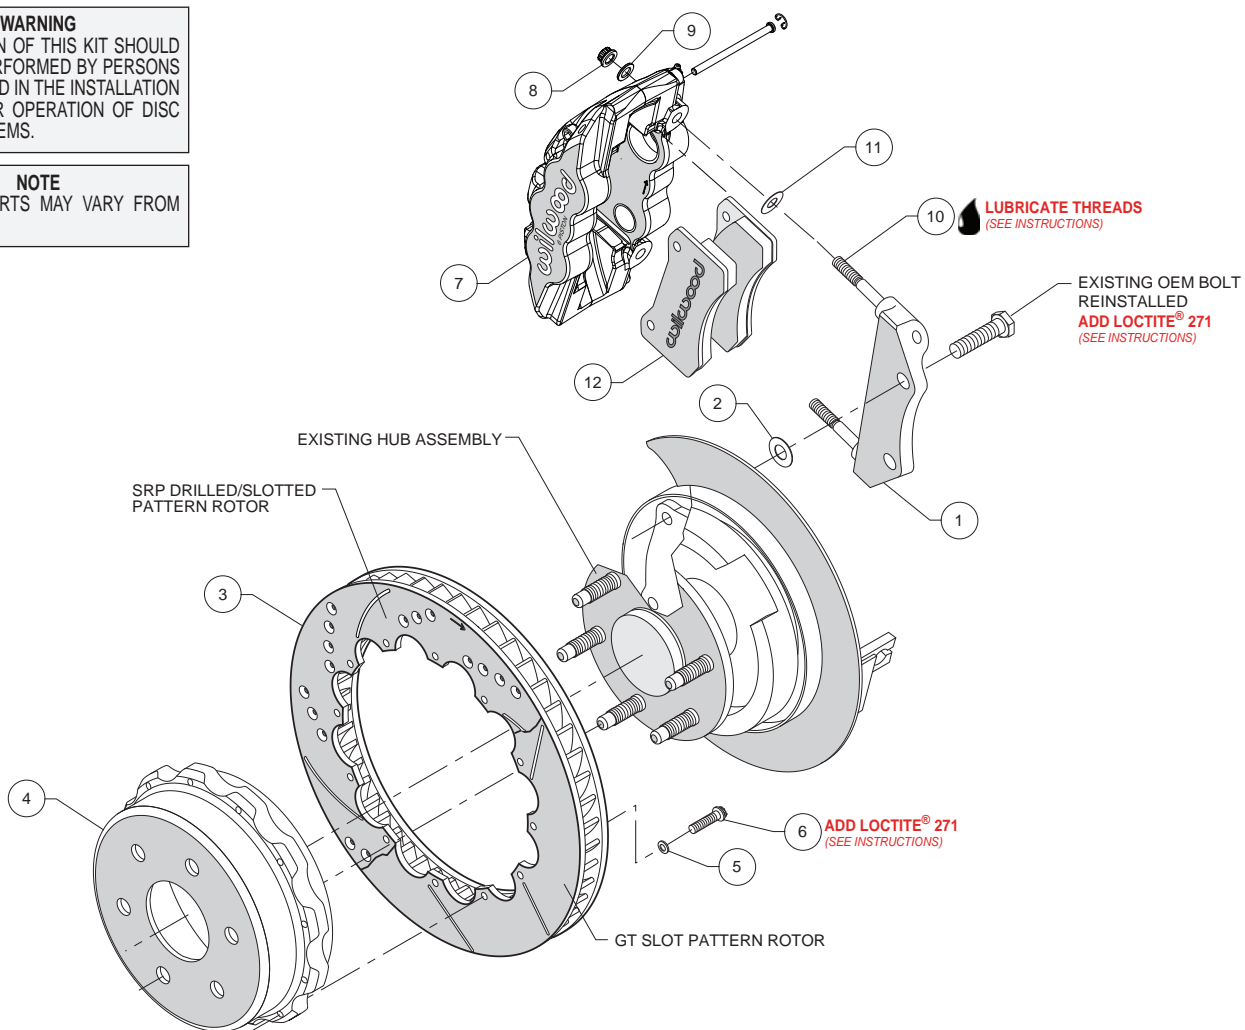
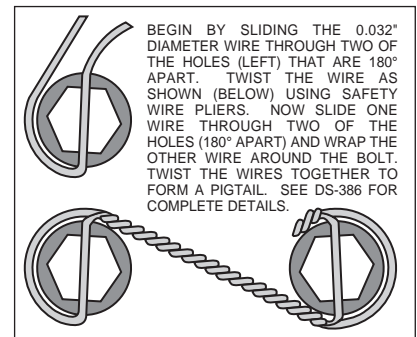

Figure 1. Typical Installation Configuration
Figure 3. Safety Wire Diagram
**Assembly Instructions** (numbers in parenthesis refer to the parts list and Figure 1 on the preceding page):
- The caliper mount bracket assembly (1) should be installed first with clean, dry threads on the mounting bolts. Install the bracket from the inboard side by sliding the original OEM bolt through the bracket (1) and place a washer (2) between the bracket (1) and mounting upright. The bracket must tighten squarely against the inboard side of the caliper mount bosses on the upright. Inspect for interference from casting irregularities, machining ridges, burrs, etc. Use one thin shim (2) between the bracket and upright during initial trial fitting. **NOTE: The dust shield needs to be trimmed on both the top and bottom openings for the Wilwood bracket to fit properly. Test fit bracket and trim as necessary. Paint newly exposed areas to prevent corrosion.**
- With the larger I.D. side of the rotor (3) facing away from the hat (4), bolt rotor (3) to hat (4) through the backside of the rotor using washers (5) and bolts (6). Using an alternating sequence, apply red *Loctite*® 271 to the threads and torque bolts to 140 **in-lbs**. The bolts must be safety wired using standard 0.032 inch diameter stainless steel safety wire as shown in Figure 3. Please refer to Wilwood's data sheet DS-386 (available at [www.wilwood.com/Pdf/DataSheets/ds386.pdf](http://www.wilwood.com/Pdf/DataSheets/ds386.pdf)) for complete safety wire installation instructions.
- Install one shim (11) over each stud (10) on the radial mount bracket (1). Slide the caliper (7) in place over the studs and rotor and install the washer (9) and lock nut (8) to hold the caliper in place. The caliper bleed screws should be pointing up. Snug the lock nuts (8) and check that the rotor (3) is centered in the caliper (7). Add or subtract .029" shims (2) as necessary between the caliper mount bracket (1) and the caliper mount bosses on the upright assembly to center the caliper (7).
- Remove the two pad retaining pins from the caliper (7) by carefully popping out the pin retaining clips and sliding out the pins. Insert the brake pads (12) into the caliper from the bottom, Figure 1. With the friction material facing the rotor, secure the brake pads in place with the pad retaining pins and clips. Reinstall the caliper onto the caliper mounting bracket and temporarily tighten the lock nuts. Check that the top of the brake pad is flush with the outside diameter of the rotor. If not, adjust by adding or subtracting shims (11) between the caliper and the bracket.
- Adjust the parking brake shoes outward (using a drum shoe adjustment tool available at your local auto parts store) while spinning the hat (4) until a slight drag is felt against the hat/drum.
- Once all clearances have been checked, remove the wheel, caliper and rotor from the axle flange. Secure the caliper mounting bracket (1) to the upright using red *Loctite*® 271 on the bolt threads. Torque the bolts to manufacturer's specifications. Reinstall the rotor and again use several lug nuts to hold it in place. Lubricate caliper mounting studs and nuts with lightweight oil, reinstall the caliper, torque the caliper nuts (8) to 47 ft-lbs.